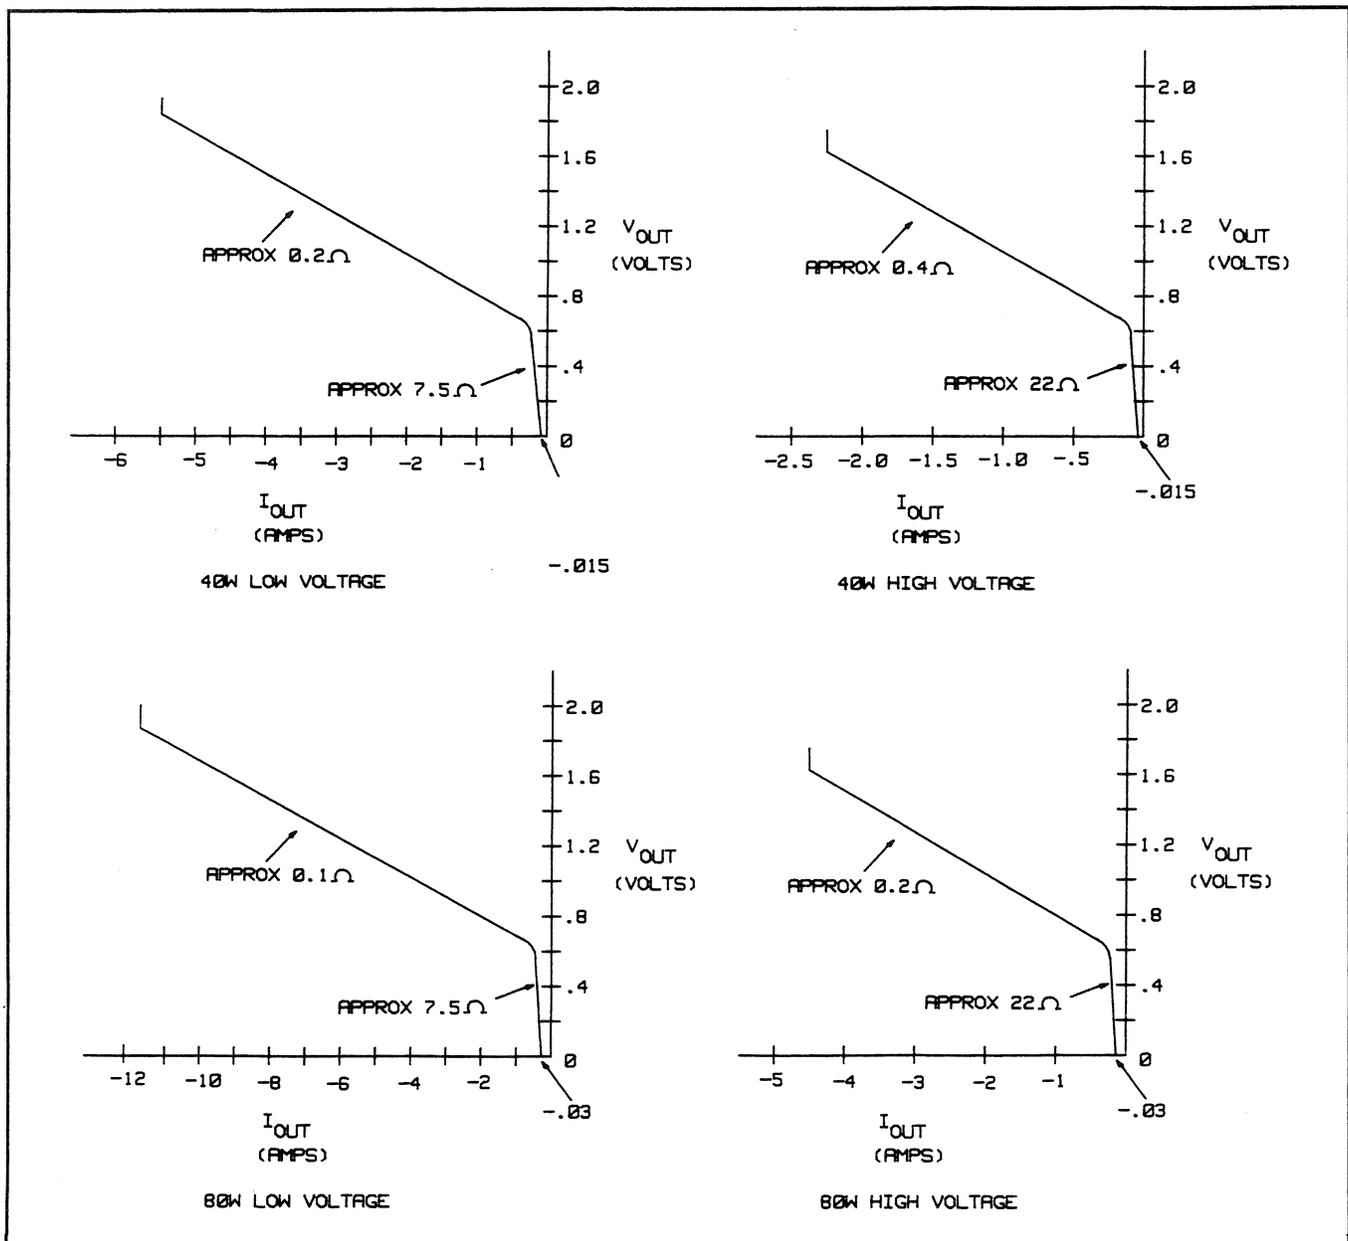

Figure 2-8. Typical Downprogramming Characteristic Below 2.0 V
**2-46 FET Downprogrammer.** When the output is sinking current and the output voltage drops below 2.0 V (approximately), the down programming characteristics (current sinking characteristic) are as shown in Figure 2-8 for each type of output board. The FET Downprogrammer circuit (Part of U351), connected across the output, senses when the output falls below 2.5 V (approximately) and connects a resistor across the output to aid downprogramming. Notice that in Figure 2-8 on the 40W low voltage graph, the 0.2 ohm slope relates to the saturated impedance of the current sink transistors, the 7.5 ohm slope is due to the resistor R457 in series with FET Q342, and the - 0.015 amps at VOUT equals zero volts represents the bleed current in Q341.